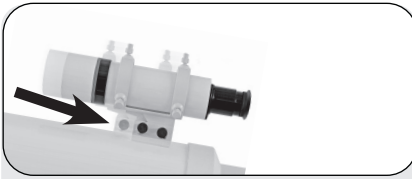

Fig. 9b: The finder scope assembly has a dovetail bracket, that fits the holder that is mounted on the optical tube.
9. Attach viewfinder bracket (Abb. 9b). Locate the viewfinder bracket screws (15, Fig. 1b and Fig. 9a) and remove the nuts from the screws. Slide the holes in the viewfinder bracket over the viewfinder bracket screws. Replace the nuts and tighten to a firm feel only.